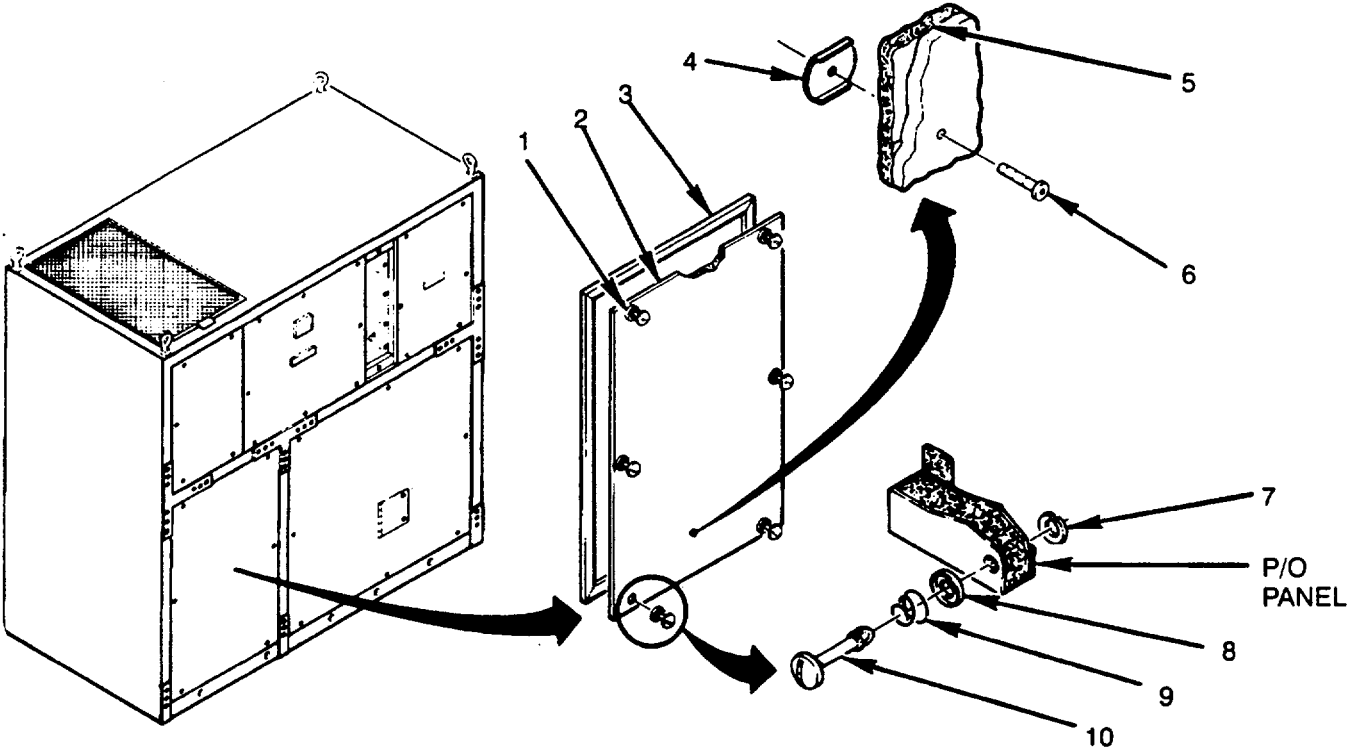

Figure 4-31. Left Front Condenser Panel
1. Loosen six captive fasteners (1) (see Figure 4-31).
2. Remove panel (2).